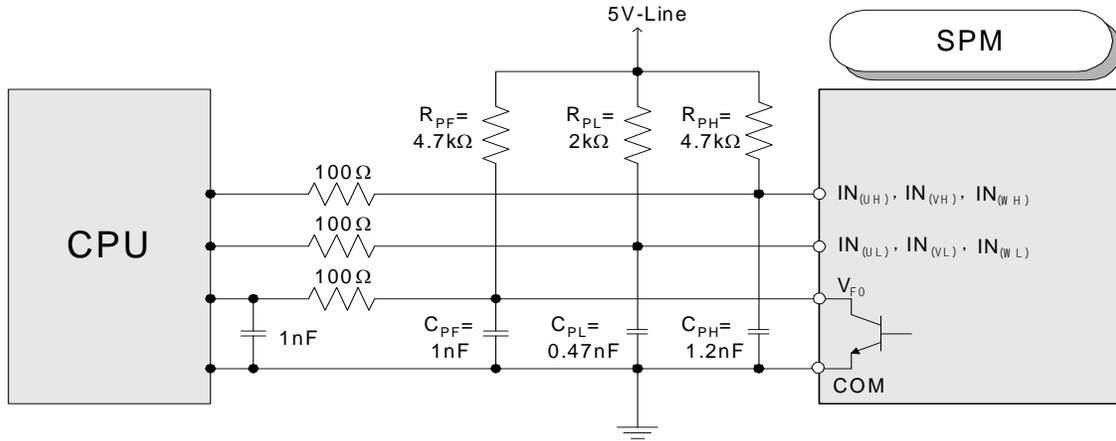
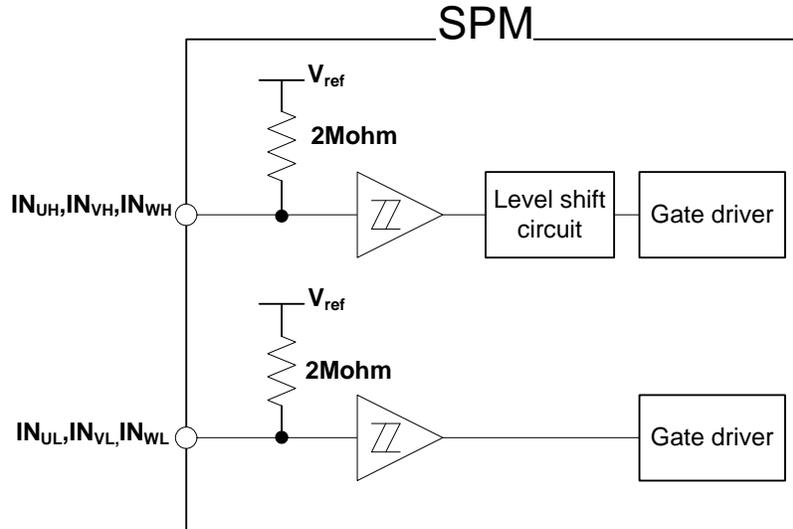

Figure 6.1 Recommended CPU I/O Interface Circuit
Figure 6.2 Internal structure of signal input terminals
- To prevent signal oscillations, an RC coupling is recommended as illustrated in Figure 6.1.
Figure 6.1 shows the I/O interface circuit between the CPU and DIP-SPM. The DIP-SPM input logic is active-low and there are built-in pull-up resistors.(approximately, 2Mohm) V_{FO} output is open collector configured. This signal should be pulled up to the positive side of the 5V external logic power supply by a resistor of approximate 4.7k Ω .
The input and fault output maximum rating voltages are shown in Table 6.1. Since the fault output is open collector configured, it's rating is $V_{CC}+0.3V$, 15V supply interface is possible. However, it is recommended that the fault output be configured with the 5V logic supply, which is the same as the input signals. It is also recommended that the by-pass capacitors be placed at both the CPU and DIP-SPM ends of the V_{FO} , signal line as close as possible to each device. The RC coupling at each input (refer to Figure 6.1) might change depending on the PWM control scheme used in the application and the wiring impedance of the application's PCB layout.
As shown in Figure 6.2, the DIP-SPM input signal section integrates a 2MΩ (typical) pull-up resistor. Therefore, when using an external filtering resistor between the CPU output and the DIP-SPM input attention should be given to the signal voltage drop at the DIP-SPM input terminals to satisfy the turn-on threshold voltage requirement. For instance, $R = 100\Omega$ and $C = 1nF$ for the parts shown in figure 6.1.
3. V_{FO} output is an open collector output. This signal line should be pulled up to the positive side of the 5V logic power supply with approximately 4.7k Ω resistance. (reference Figure 6.1)